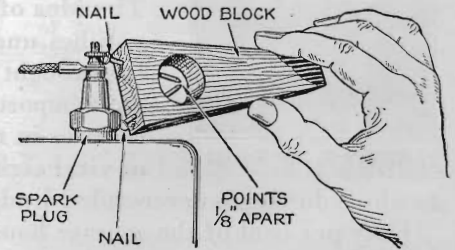

Fig. 4. Testing a spark plug with nails driven in block. The spark jumps between nail points.
**A** WOODEN block and two ordinary nails can be fashioned into the handy spark plug tester shown in Figure 4. It